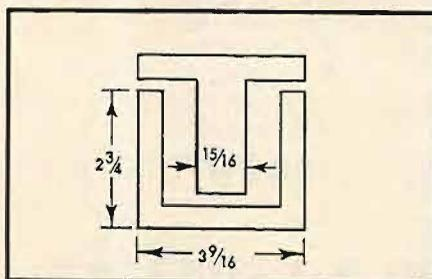

Fig. 8. Typical lamination shape.
While dealing with a specific example it is worth calculating the number of turns and the size of transformer required to obtain the primary inductance suggested. Any required value of inductance can be obtained in either of two ways; a small number of turns on a large iron core, or a large number of turns on a small iron core. A large core and few turns should result in small signal power losses and a high price, with the converse being true if a small core and a large number of turns are adopted. The choice of core size is thus somewhat arbitrary unless the permissible power loss can be specified. An examination of the lists of some of the leading manufacturers shows that their high-quality transformers have an over-all volume of about two cubic inches per watt, suggesting that a 1½-in. stack of the laminations shown in Fig. 8 will handle 20 watts, though this is a point that will be checked more closely at a later stage when the distortion products are being studied.
Using the two cubic inches per watt figure it might be expected that a 1½-in. deep stack of the laminations shown in Fig. 8 would handle 20 watts with ease. The core area of a 1½-in. stack is roughly 1½ sq. ins. and the iron path length 8 inches. Inserting these values into Eq. (3) shows that about 1100 turns are required to give an inductance of 10 henries while 2400 turns are necessary to obtain 50 henries. When harmonic distortion is considered at a later stage, it will be shown that in general the primary inductance required to hold harmonic distortion to an acceptably low limit automatically ensures a good frequency response.